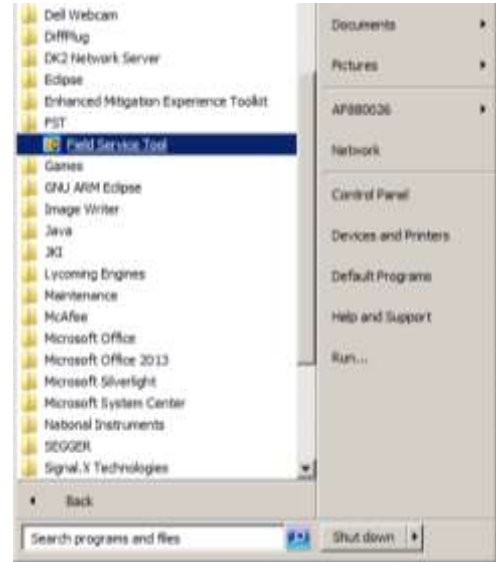

Figure C-21
6. Find the FST Folder in the menu and double-click on **Field Service Tool** (Figure C-21).